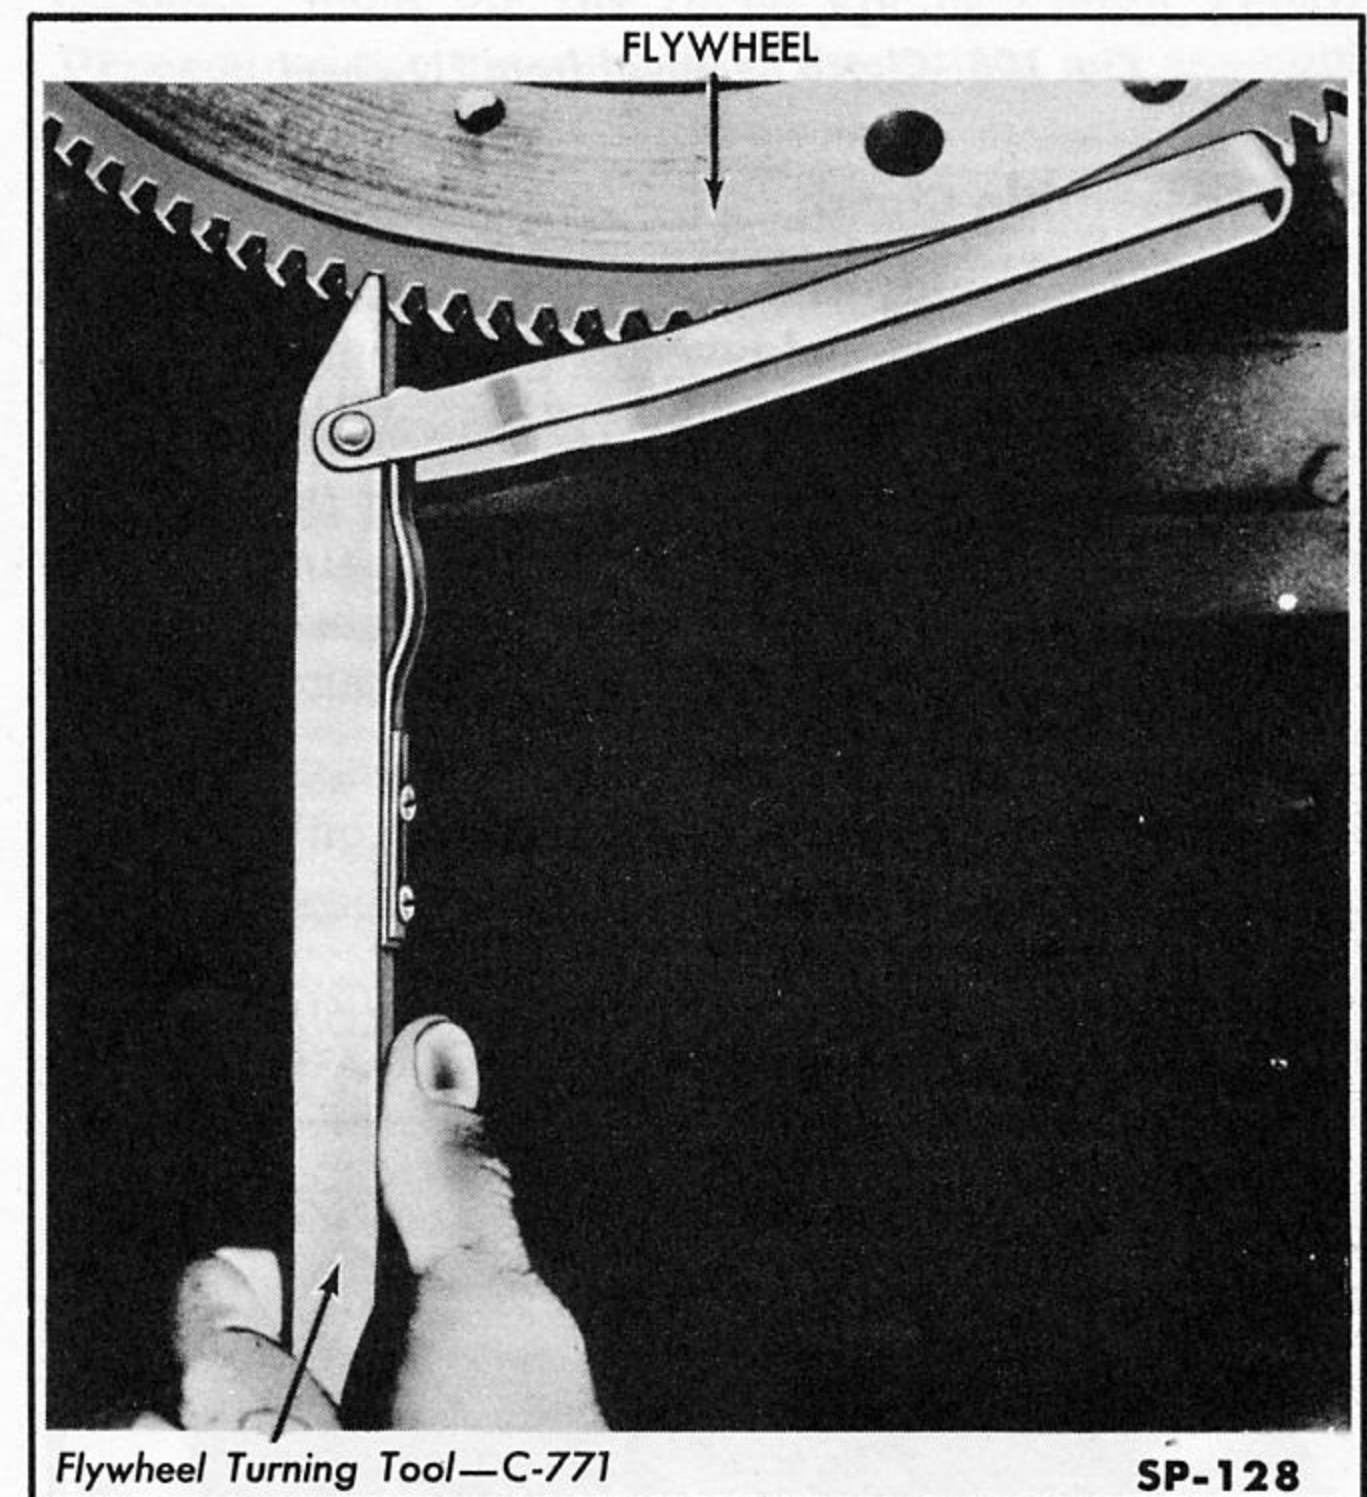

Fig. 107—Rotating Flywheel by Hand
5. Rotate flywheel, using Flywheel Turning Tool C-771 (Fig. 107) so that each pressure plate cover mounting bolt is accessible. Loosen bolts alternately and only one turn at a time to relieve spring pressure which could otherwise cause cover distortion.